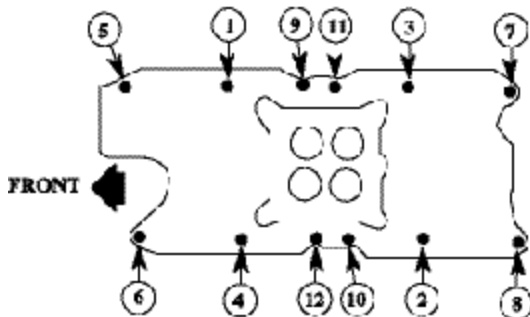

Figure 2 - Intake Manifold Tightening Sequence
5. Install the intake manifold and hold-down bolts. On early model heads, there is no support underneath manifold bolts 5, 6, 7 and 8. Hand tighten these ONLY, using a 6" box end wrench being careful not to damage the manifold. Torque the remaining manifold bolts in two steps by the sequence shown in Figure 2 to 18-20 ft/lbs.